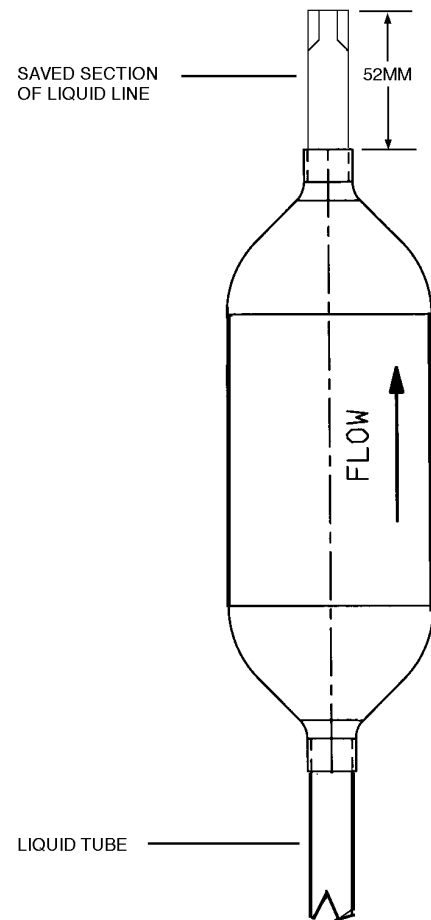

FIGURE 39 — INSTALLED FILTER DRIER
11. **For Heat/Cool Units** the filter drier is installed in the liquid line, in place of the strainer. Trim the saved liquid line tube from Step 9, to be 1.5 in. long (saving the crimped portion), and braze it into the filter drier, Part No. KH43LG060. See Figure 39.